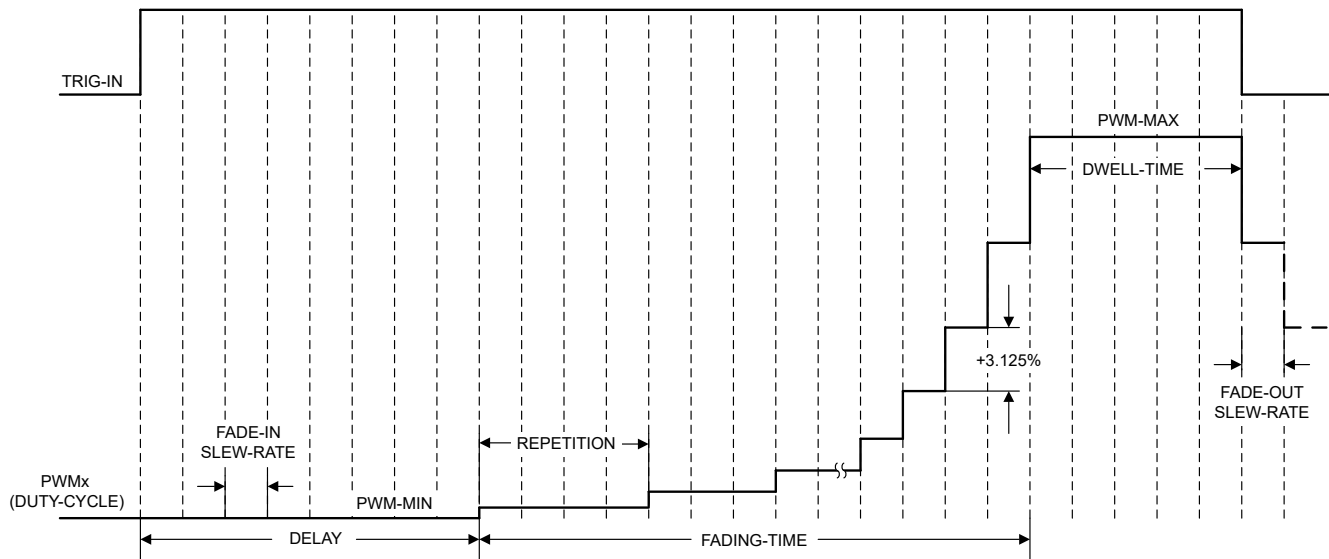

Figure 7-6. Fade-in Fade-Out Detailed Timing Diagram
By default the DAC43901-Q1 is configured in the PWM fade-in fade-out with the default settings as shown in Table 7-4. To change settings in the SRAM, write the SRAM address to the SRAM-ADDR register followed by a write to the SRAM-DATA register with the data. The register locations can be directly written with a single I²C or SPI sequence. In fade-in fade-out mode or animation mode, the basic setting is the fade-in or fade-out SLEW_RATE as depicted in Figure 7-6. The SLEW_RATE defines the timing resolution of the application. When the SLEW_RATE is multiplied with the number of steps in the fading, the fading time is obtained. The SLEW_RATE can be calculated using Equation 4. In logarithmic fading, the number of steps are nonlinear and also depend on the start and end duty-cycle settings. The total fading time is calculated using Equation 5 and Table 7-5. The fade-in can be started after a delay, calculated per Equation 7. CH0-DELAY defines the fade-in delay for PWM0, and COM-DELAY defines the fade-in delay for PWM1. The delay applies even when the fade-in is disabled by writing 0 for FADE-IN SLEW_RATE. In this case, a predefined delay setting of 256 is considered. There is no delay for fade-out.
- t_{FADE} is the total fading (fade-in or fade-out) time as depicted in Figure 7-6.